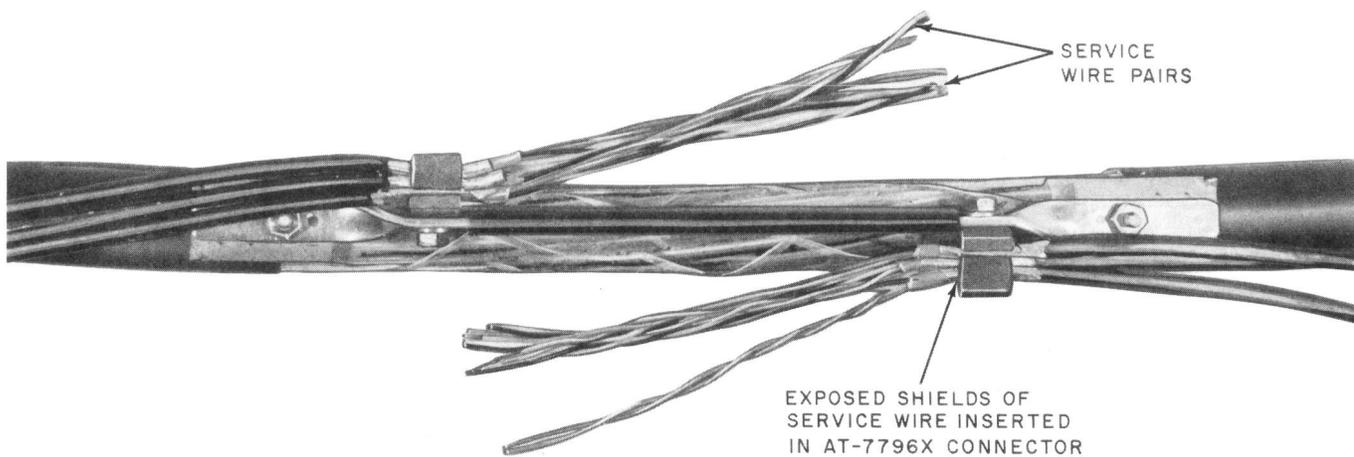

Fig. 8—Installed Service Wire
3.06 Install the exposed shield of the service wire in the AT-7796X connector as shown in Fig. 8 and tighten the screw. This bonds the shield of the service wires to the cable shield. If